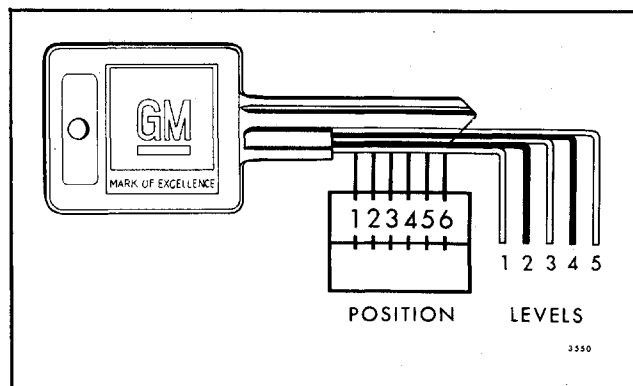

Fig. 1-4-Key Code Diagram
After code number has been recorded by owner, plugs should be knocked out of key head. From these numbers, lock combination can be determined by use of a code list (available to owners of key cutting equipment from equipment suppliers). If key code numbers are not available from records or from the knockout plug, lock combination (tumbler numbers and position arrangement) can be determined by laying key on diagram in Figure 1-4.
After the special code has been determined, either from code list or Key Code Diagram (Fig. 1-4), cut blank key to the proper level for each of six tumbler positions, and check key operation in lock cylinder.
- a. Lay key on Key Code Diagram (Fig. 1-4) with key outlined by diagram as accurately as possible.